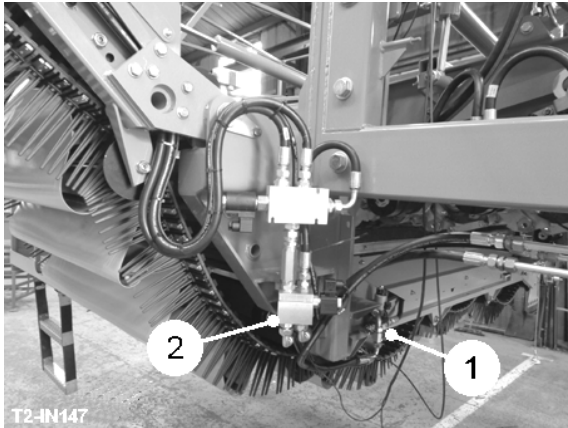

Fig 17
For the spreader to run, the auxiliary valve bank discharge section must first be turned on using the button  on the touch-screen. The button  will then start/stop the spreader independently of the elevator web. The speed of the spreader web is controlled by the flow divider (item 1, fig. 17) from the touch-screen.
The touch-screen button  starts/stops all the elements of the rear section of the harvester. With the touch-screen button  ON, the joystick button  starts/stops only the elevator web by operating the bypass valve (item 2, fig. 17).